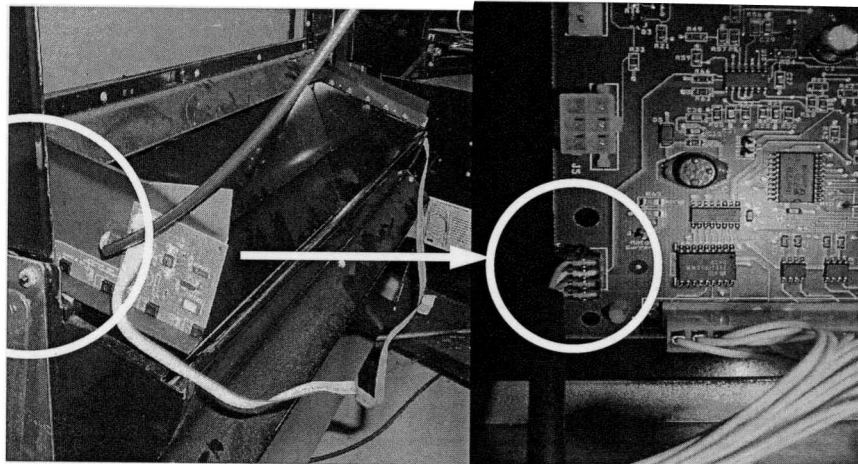

Figure 6.
6. Connect the receiver board to the control board. Use the Sensor to Control Cable that is already connected to the receiver board. The unconnected end will plug into the Drop Sensor header, J19, of the vending machine controller (VMC). See Figure 6.